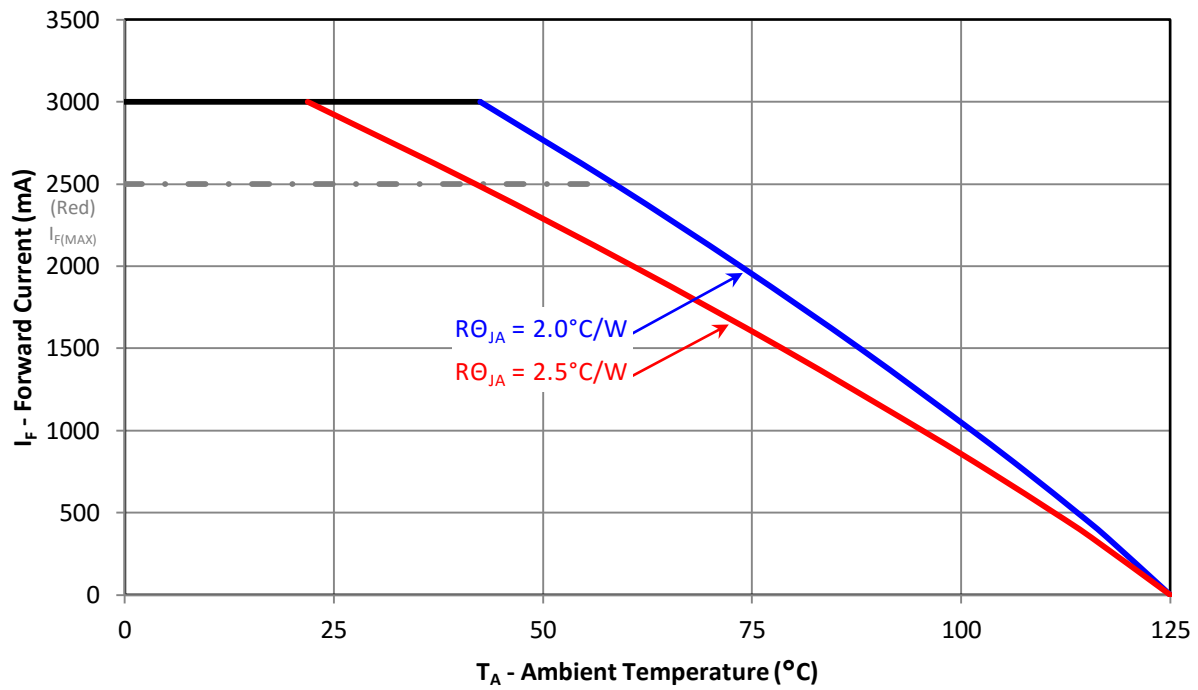

Figure 11: Maximum forward current vs. ambient temperature
- Maximum DC forward current is determined by the overall thermal resistance and ambient temperature. Follow the curves in Figure 11 for current derating.
Notes for Figure 11: